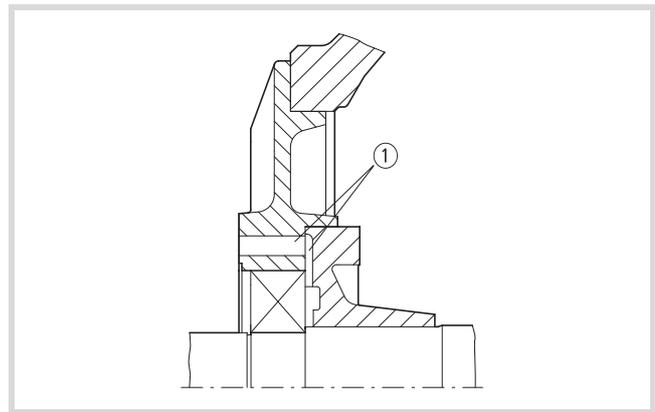

Figure 31: Location of the greasing channel
- Ensure the correct location of greasing grooves on motors with a lubrication device (→ Fig. 31).